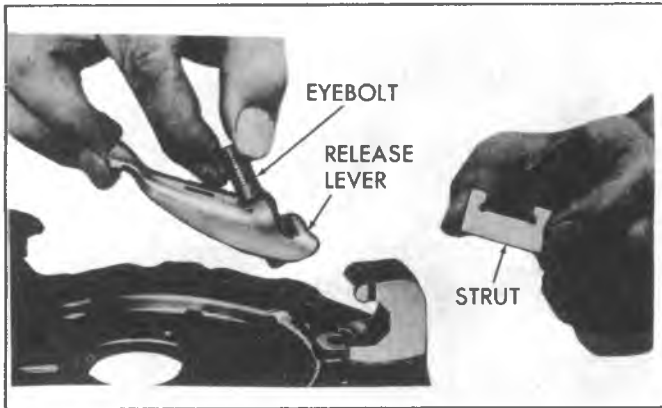

Fig. 7C-22--Installing Lever
5. Slide the strut upward in the slots of the lug, lifting it over the ridge on the short end of the lever and drop it into the groove in the lever, as shown in Fig. 7C-19.